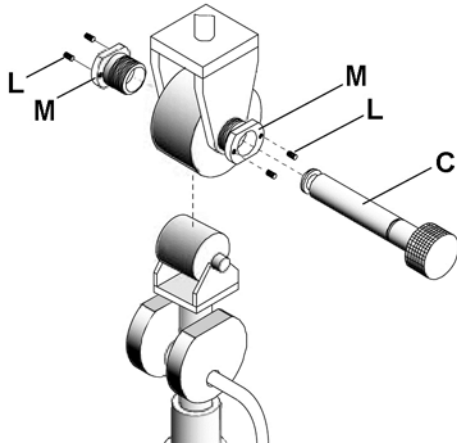

Figure 6-5
1. Loosen four set screws (L, Figure 6-5).
2. Turn adjusting nut (M) outward (counterclockwise) in small incremental steps, and the opposite adjusting nut inward by the same amount, until upper wheel is centered over lower wheel.
3. Tighten four setscrews (L).